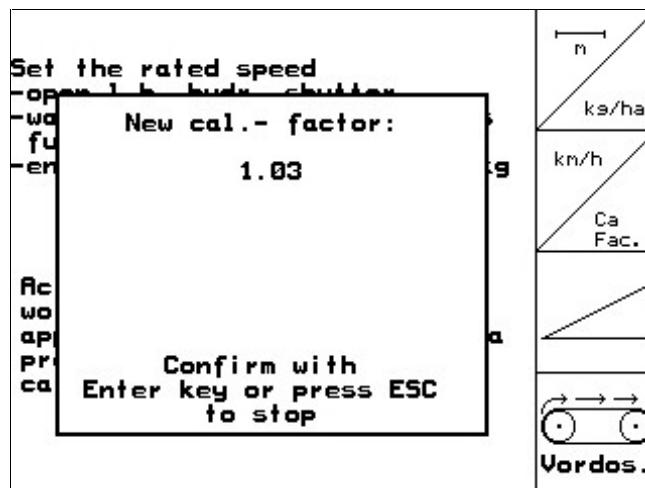

Fig. 36
- The new calibration factor is shown and confirmed with  or rejected with  (Fig. 36).